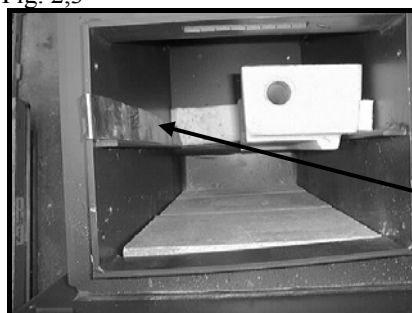

Fig. 2,4
6. Install left and right bricks. Use the insulation rail to retain the gaskets on the sides of the firebox while the bricks are pushed against the back wall of the firebox., see figs. 2,4 and fig. 2,5.